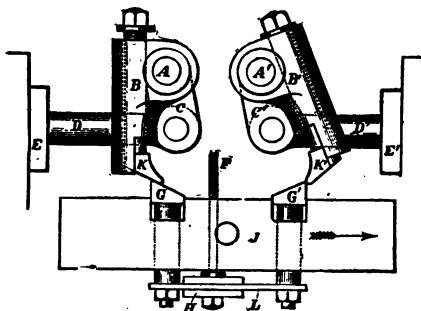

FIG. 26. CUT-OFF MECHANISM, GREENE ENGINE.
A. There are four flat valves ; the steam valves are attached to the cut-off gear by stems *D*, *D'*, shown in the detailed view, Fig. 26, parallel to their seats, passing through stuffing boxes *E*, *E'*, and connected to rock shafts, and driven by a sliding bar *J*, actuated by an eccentric set to drive it parallel with the cylinder axis, and coincident with the piston. This bar bears a pair of tappets *G*, *G'*, adjusted vertically to engage drop toes *KK'* on rock shaft arms *BB'* on rock shafts *AA'* attached to the valve links inside the steam chest. The tappets were formerly held to their work by springs, and their position regulated by a Porter governor. They now have direct and rigid connection with the governor. The exhaust valves are grid-iron slides travelling across the cylinder line, and driven by a horizontal rock shaft extending forward to the eccentric on the main shaft.